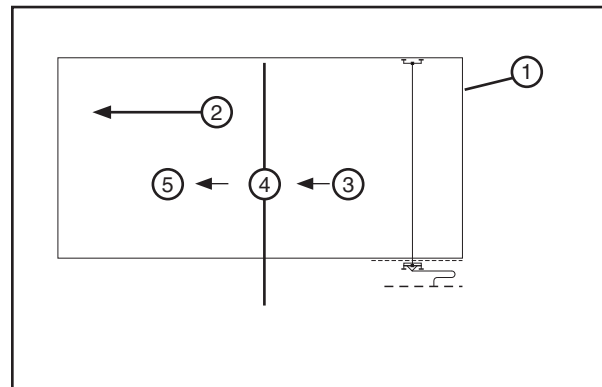

Figure 37-2 1. Field 2. Direction of Travel 3. Wet 4. Stop 5. Dry
3. The system direction is reversed, the percentage timer is set to the desired application rate and the system is run wet (irrigating) to the middle of the field. See figure 37-2.
4. The system is stopped, the percentage timer is set to 100% and the system is run dry to the original end of the field. See figure 37-2.